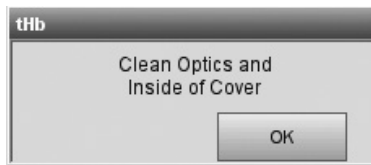

Fig. 7-6 Clean Optics
4. Gently clean the optics window and the inside top cover of the sample chamber with a soft lint free cloth. Press  (Fig. 7-6).